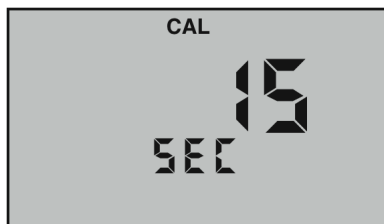

Figure 25
4. Press  to initiate. “**CAL**” will be displayed along with “**15 SEC**” or current Auto oFF value (see Figure 25, pg. 44).